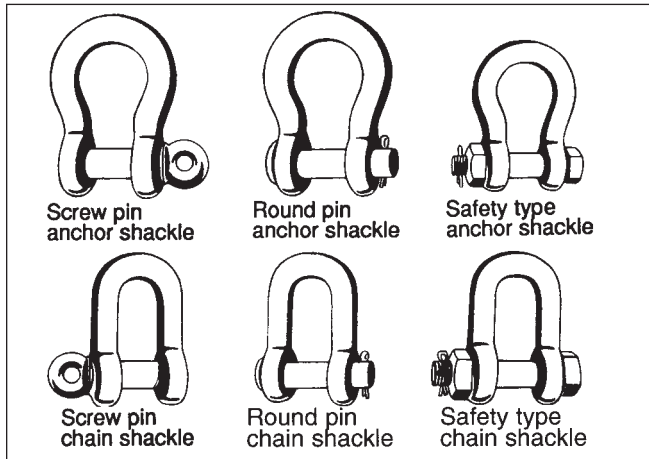

Figure 18
- Available in various types (Figure 18).